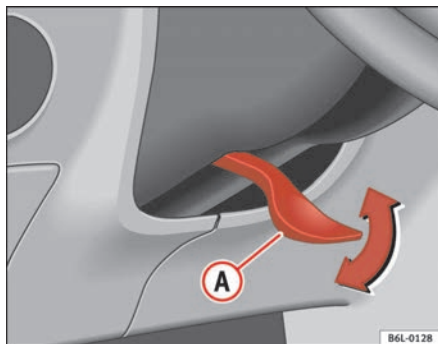

Fig. 97 Adjusting the steering wheel position
- Push down the lever **A** ⇒ fig. 97 located under the steering column ⇒ ⚠.